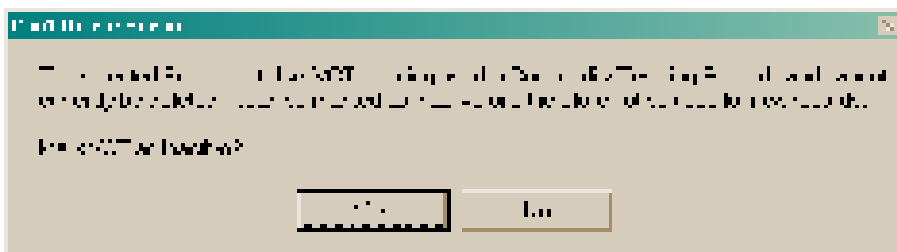

Figure 5.29 Delete purpose of use alert message.
3. If product-tracking records are associated with the selected purpose of use, a message (Figure 5.29) is displayed, asking you to mark the purpose of use inactive. Click Yes to mark the selected purpose of use inactive.